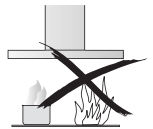

Fig. 2
-  Do not leave lit gas burners exposed due to the risk of fire.(Fig.2)